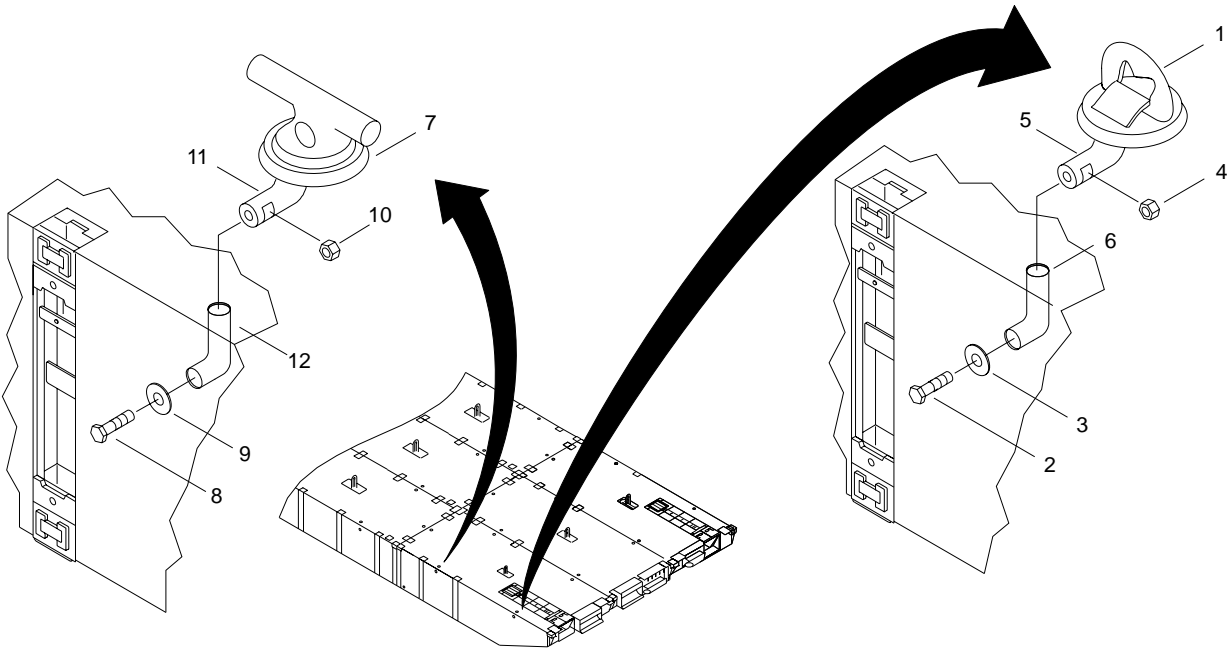

Figure 7. D-Ring and Deck Cleat Fitting Installation
1. Remove D-ring fittings (figure 7, item 1).
- a. Remove bolt (figure 7, item 2) and keeper plate (figure 7, item 3) from nut (figure 7, item 4) and tailpiece (figure 7, item 5).
- b. Remove D-ring (figure 7, item 1) from module turn tube (figure 7, item 6).
- c. Install bolt (figure 7, item 2) and keeper plate (figure 7, item 3) into nut (figure 7, item 4) in tailpiece (figure 7, item 5).
2. Remove deck cleat fittings (figure 7, item 7).
- a. Remove bolt (figure 7, item 8) and keeper plate (figure 7, item 9) from nut (figure 7, item 10) and tailpiece (figure 7, item 11).
- b. Remove deck cleat fitting (figure 7, item 7) from module turn tube (figure 7, item 12).
- c. Install bolt (figure 7, item 8) and keeper plate (figure 7, item 9) into nut (figure 7, item 10) in tailpiece (figure 7, item 11).